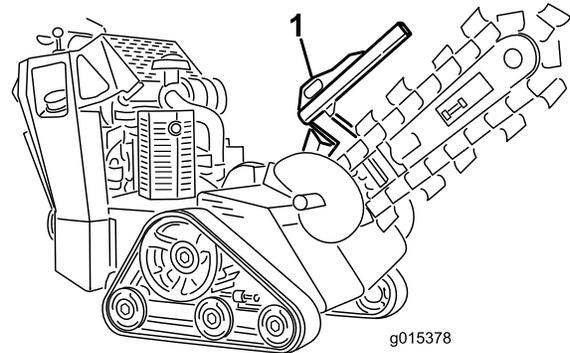
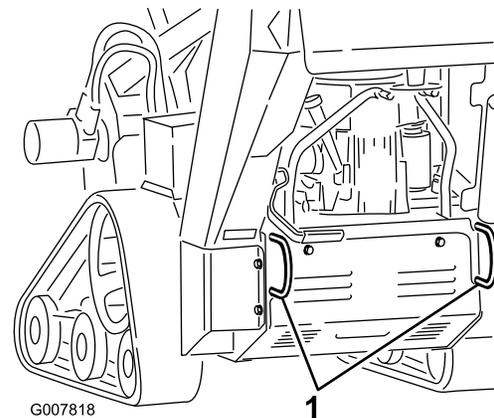

Figure 22
Figure 23
3. Secure the machine to the trailer with chains or straps using the tie-down/lift loops at the front and rear of the machine (Figure 22 and Figure 23). Refer to your local ordinances for trailer and tie-down requirements.
You can lift the machine using the tie-down/lift loops as lift points (Figure 22 and Figure 23).